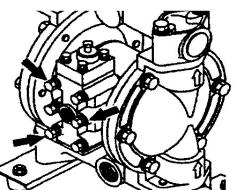

Fig. 7.1
- Remove the 6 retainer bolts from the valve body, and remove the valve body. [Fig. 7.1]